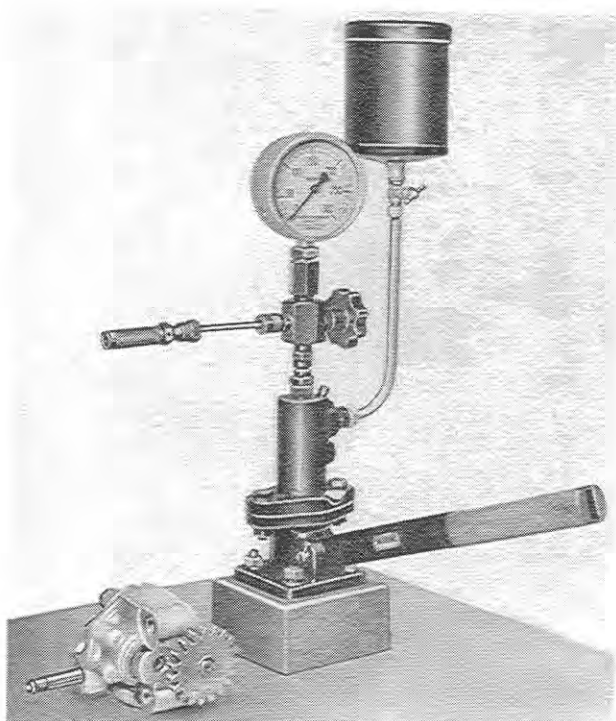
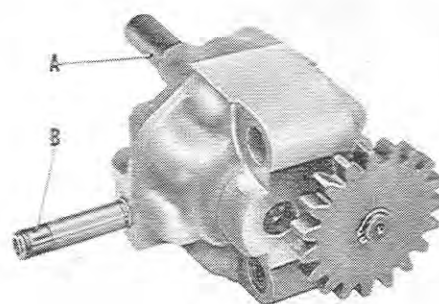

Fig. 15
Fig. 16
- 2) Check with an injector tester pump (Fig. 15), the safety valve (1,990 p.s.i - 140 kg/cm2) (Fig. 16 - A).
- 3) Fit the stirrup C (Fig. 15), to the control beam by means of the two Allen screws.